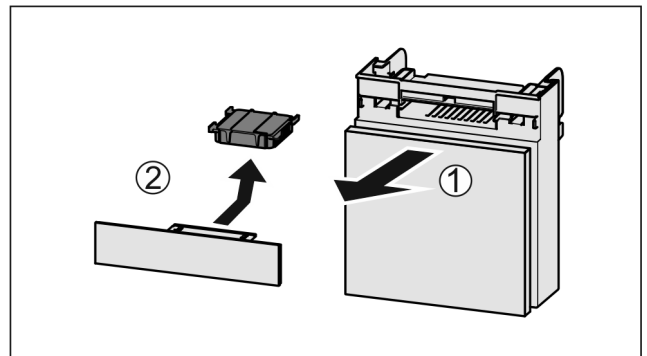

Fig. 134
- ▶ Pull out the compartment Fig. 134 (1).
- ▶ Remove the carbon filter Fig. 134 (2).